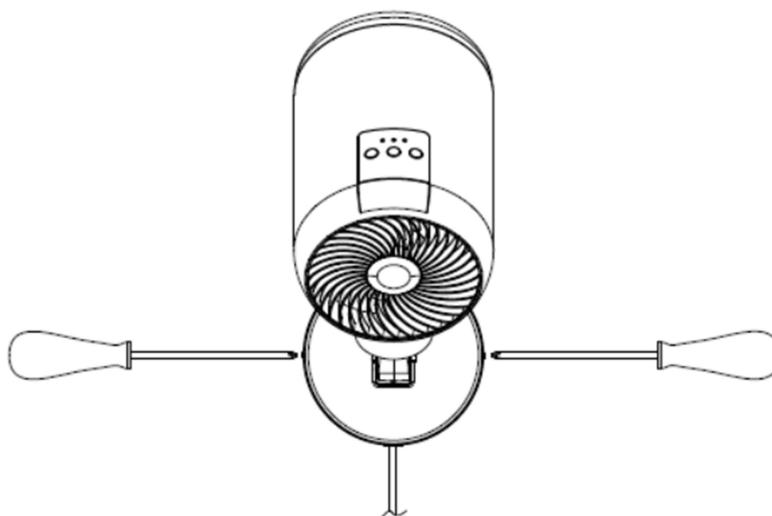
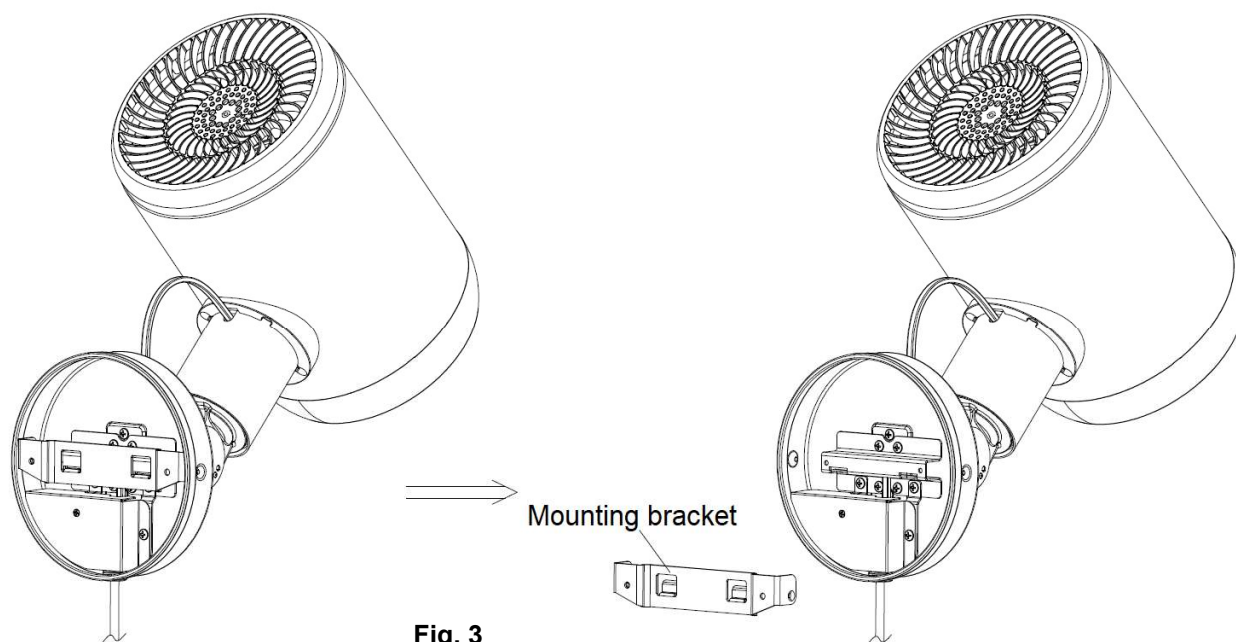

Fig. 2
Fig. 3
- Remove the mounting bracket from the base of fan assembly by loosening the screws. (Fig 2 & Fig.3)